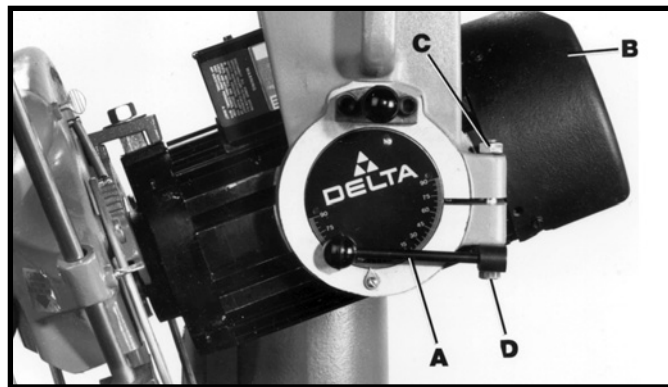

Fig. 38
If the bevel clamp handle (A) Fig. 38 does not securely lock the motor when the handle is in the locked position, an adjustment can be made.
1. Place motor (B) Fig. 38, in a bevel cutting position between positive stops, as shown, and place bevel clamp handle (A) in the locked position, as shown.
2. Loosen nut (C) Fig. 38, and tighten bolt (D) until motor is locked.
**⚠ CAUTION** DO NOT OVER TIGHTEN BOLT (D).
3. While holding bolt (D) Fig. 38, tighten lock nut (C).